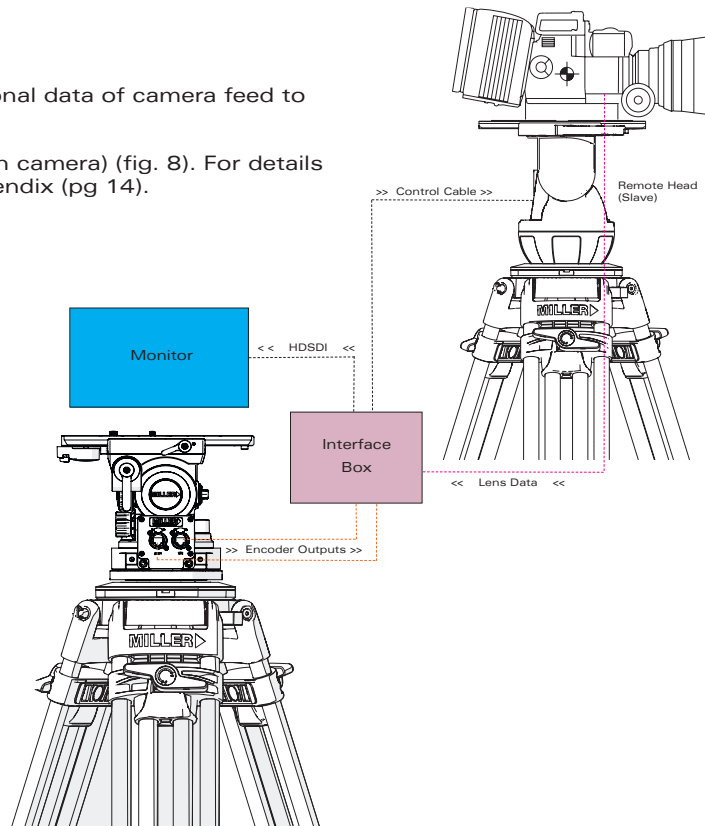

Fig. 8
2. The ArrowFX can be used to control a remote head (with camera) (fig. 8). For details on an integrated Egripment control system refer to Appendix (pg 14).